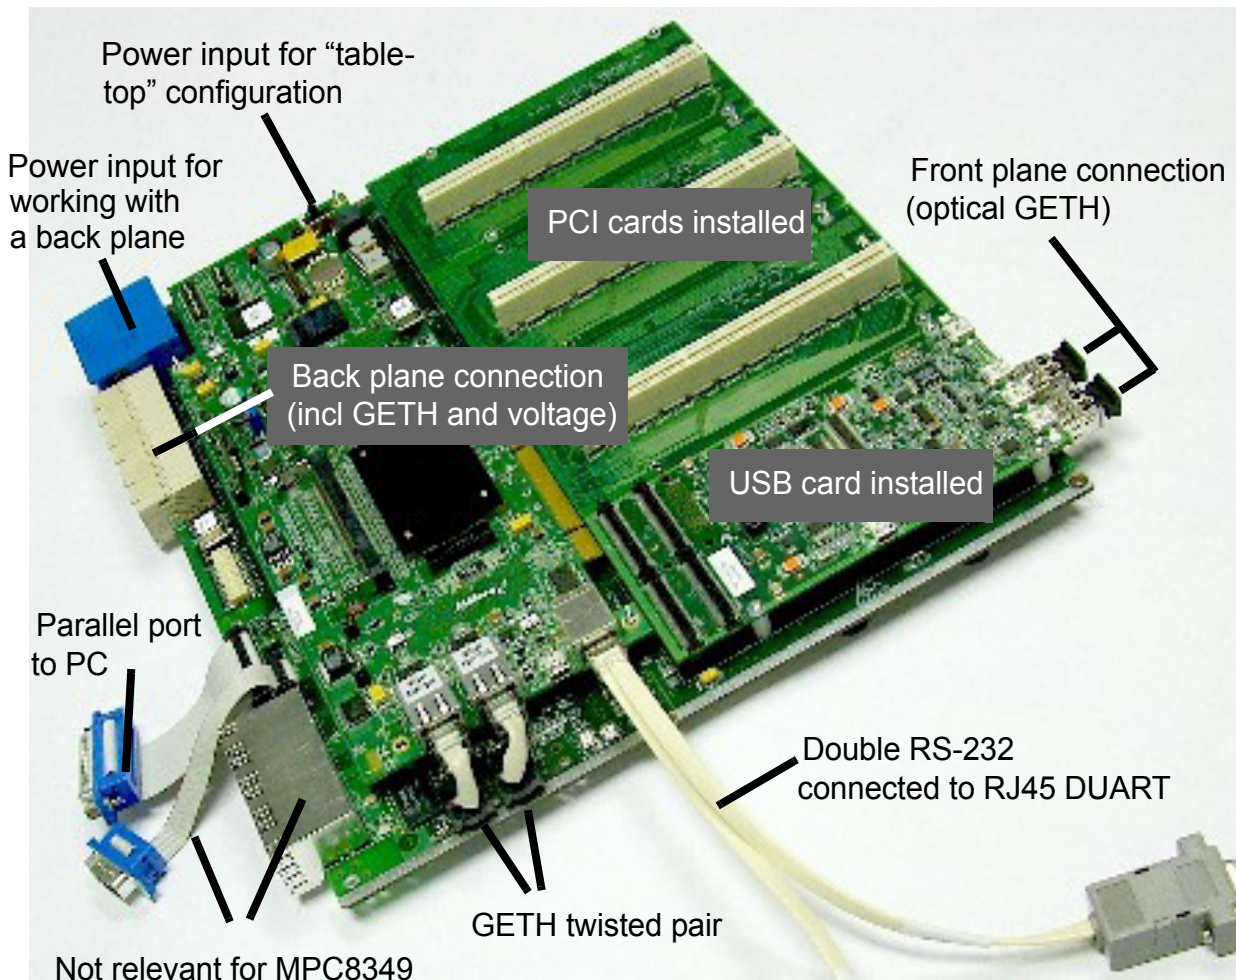

Figure 2-14 Fully Assembled Combined system:
- The fully assembled PIB-Processor board is shown in Figure 2-14, which also shows the PIB external connections relevant when the MPC8349 is used.